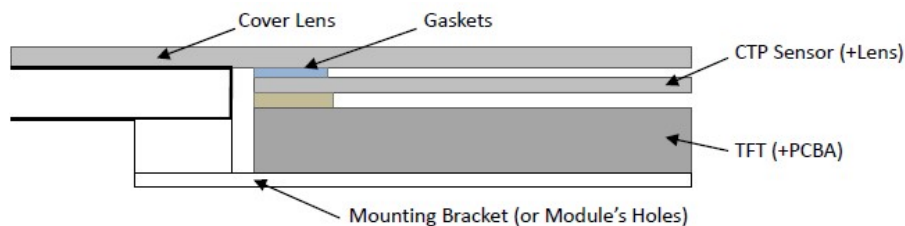

Figure 3
9.3 Additional Cover Lens Mounting (Figure 3)
9.3 覆加盖板（附图 3）